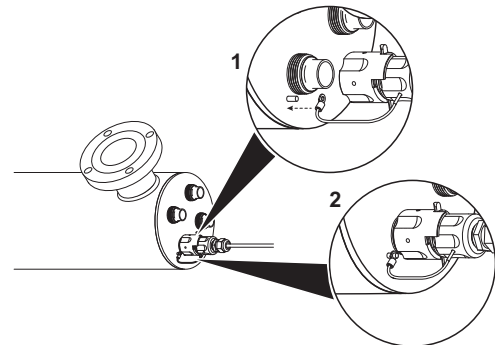

Figure 3 Ground Cable Connection
- Mount the Hi-Flo enclosure to the wall, near the reactor chamber. Ideally place the enclosure above the reactor and away from any water connection point, to prevent any water from potentially leaking onto the enclosure by means of a leak at a connection point or a “sweating” system. Make sure you allow for a “drip-loop” on the lamp, sensor and power cord, again, to prevent any water from potentially entering the enclosure. Affix the green ground wires to the grounding lug at the end of the reactor vessel and securely fasten with the lugnut provided Figure 3.